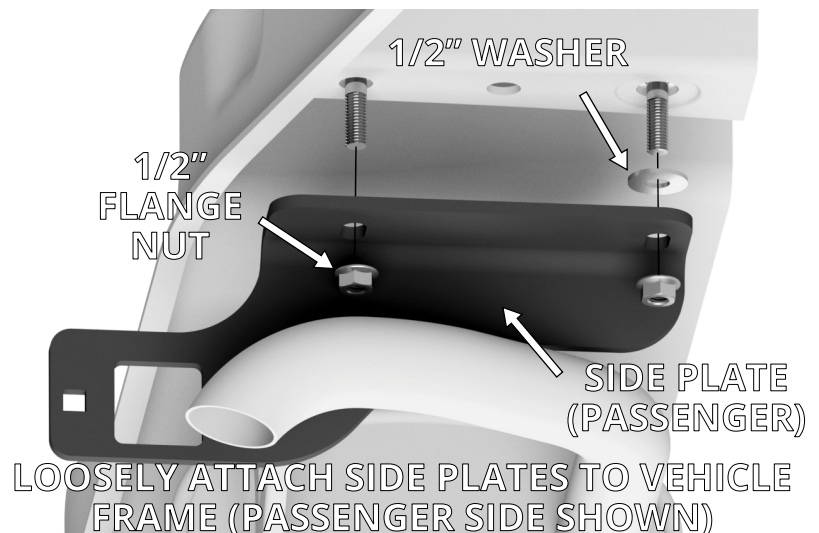

FIGURE B1: VIEW OF PASSENGER SIDE PLATE INSTALL
5. Attach each side plate to the vehicle using the two 1/2 x 1-1/4" carriage bolts that are positioned inside the chassis channels. A 1/2" flat washer should be placed between the side plate and the chassis channel around the forward bolt. Pass each side plate up over the bolts and secure them with two 1/2" flange nuts, as shown in Figure B1. Loosely attach bolts at this time.